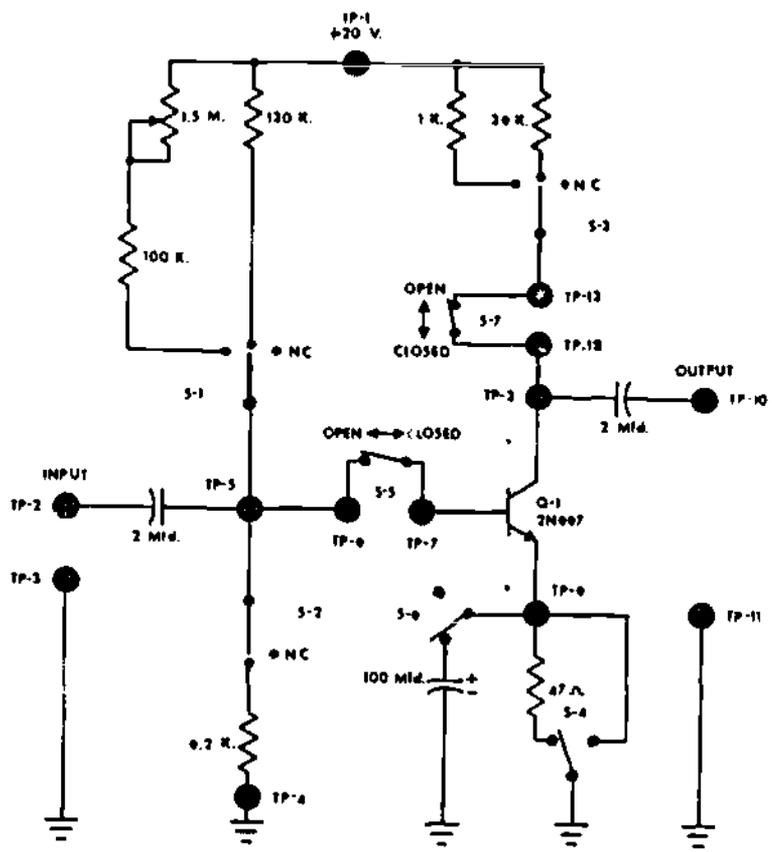

Figure 31-11.
b. Preset the switches on the trainer for the circuit configuration shown in figure 31-11.
- (1) Close S-5 and S-7 in the base and collector circuits.
- (2) Select the 120 kohm biasing resistor using switch S1.
- (3) Select the 6.2 kohm biasing resistor using switch S2.
- (4) Select the 3.9 k ohm collector load resistor using switch S3.
- (5) Select the 47 ohm series emitter lead resistor using S4 (move left).
(6) Select the emitter by-pass capacitor with S6 (move right).